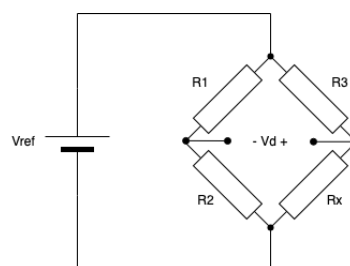

Figure 1. Wheatstone Bridge Diagram
- Referencing Figure 1, connect the breadboard to the DAQ with wires: